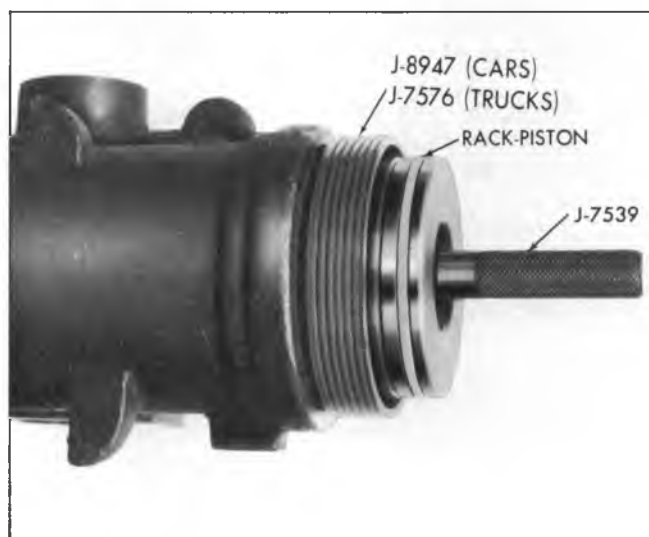

Fig. 59—Installing Rack-Piston
- c. With Ball Retainer J-7539 in place in the rack-piston, push the rack-piston (with teeth toward pitman shaft opening), into the housing until Tool J-7539 contacts the center of worm (fig. 59).